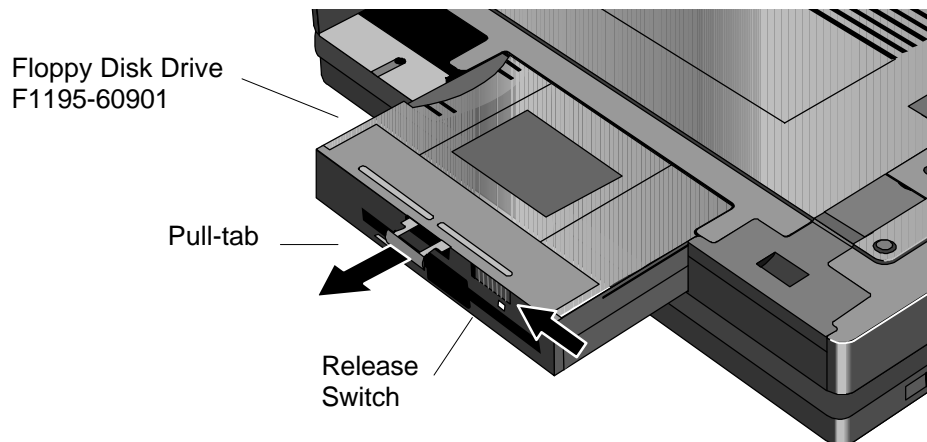

Figure 24 - Removing the Floppy Disk Drive
2. Pull the pull-tab firmly to remove the floppy drive from the compartment. See Figure 24 - note, this perspective is with the OmniBook upside down, which is not necessary.